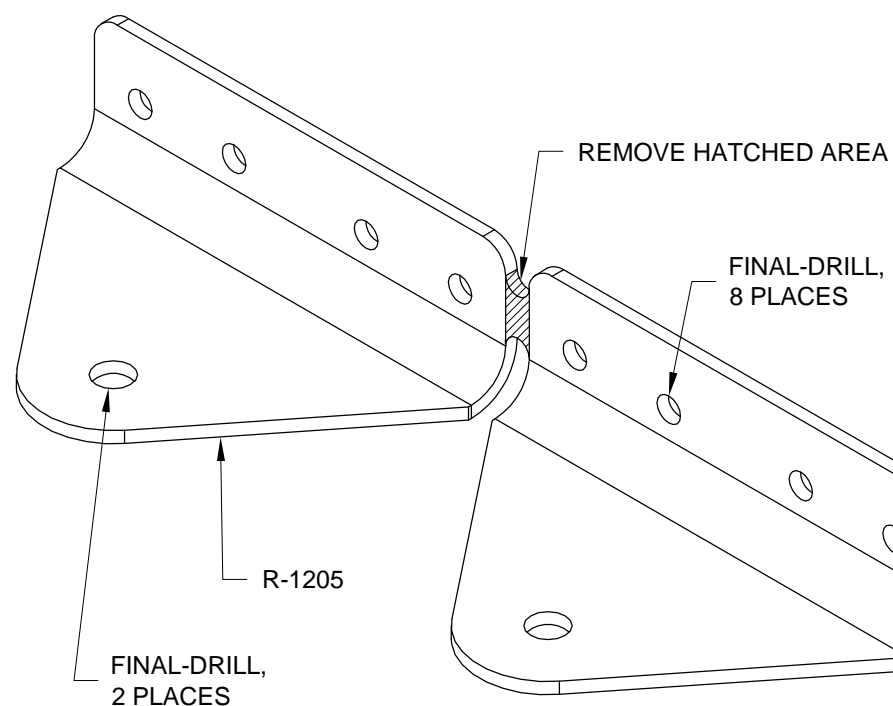

FIGURE 2: HINGE BRACKET PREPARATION
Step 4: Final-Drill #30 the 1/8 inch holes in the R-1205 Hinge Brackets as called out in Figure 2.
Step 5: Final-Drill #12 the 3/16 inch holes in the R-1205 Hinge Brackets as called out in Figure 2.
Step 6: Separate the R-1205 Hinge Brackets by removing the the material shown hatched in Figure 2.